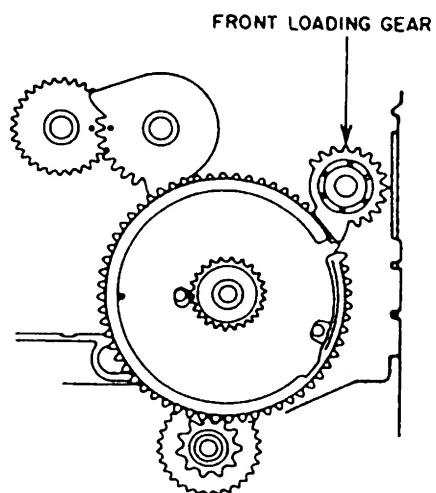
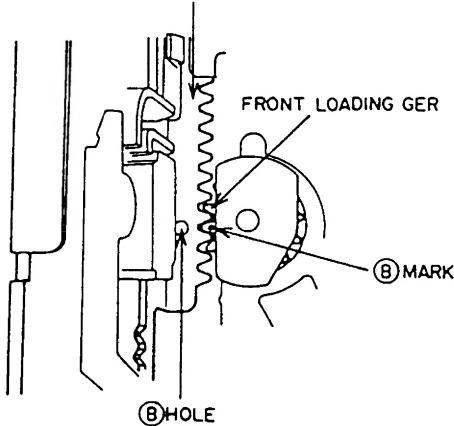

Fig. 3-10
Fig. 3-11
3) Attach the FRONT LOADING GEAR as shown in Fig. 3-10. At this time, align the ⑧ mark on the FRONT LOADING GEAR with the ⑧ hole of the FRONT LOADING SLIDER as shown in Fig. 3-11.